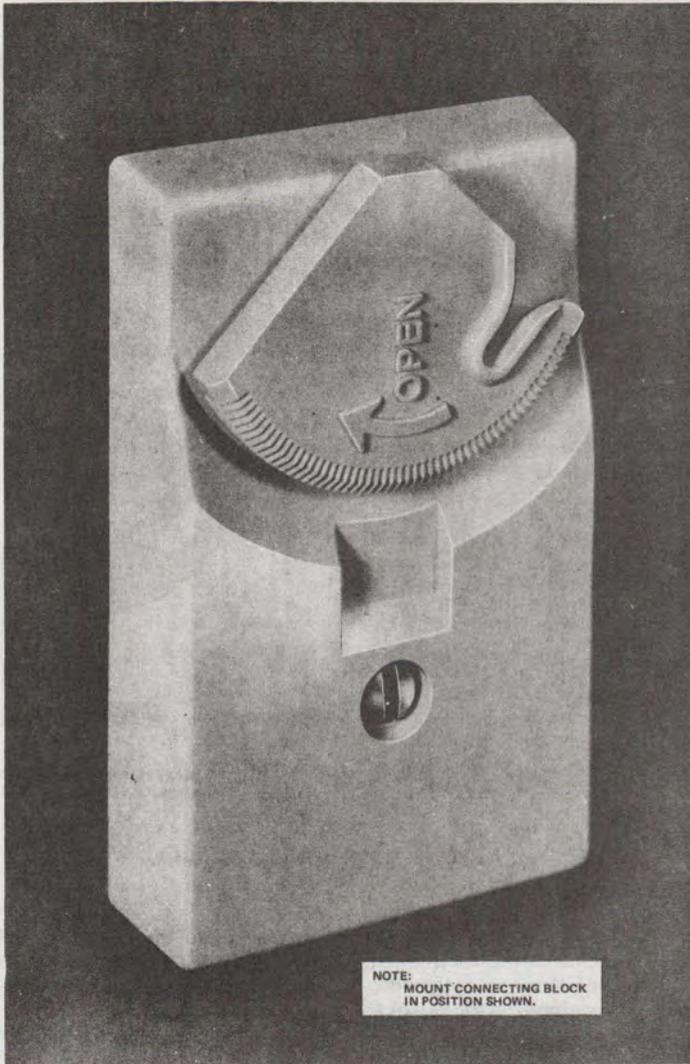

Fig. 5—625S or 625T Connecting Block
- Block, Connecting, 625S (Fig. 5)
- Block, Connecting, 625T (Fig. 5)
**2.08** The **625S** connecting block (Fig. 5) is similar to the 625A except it has a customer-operable spring-loaded cover which protects the interior telephone line contact springs from contamination. It is intended for use in areas subject to high humidity and condensation or locations exposed to dripping, washing, or foreign matter. It contains a 42A block.
2.09 The **625T** connecting block (Fig. 5) is the same as the 625S except it does not contain a 42A connecting block. It is intended to convert existing 42A or 625-type connecting blocks where extra protection is needed.
**3.07 625S Connecting Block:** Mount the 42A connecting block on the wall (preferred) or baseboard so that the 625S connecting block cover is positioned as shown in Fig. 5. When mounting on masonry walls, a backboard should always be used.
3.09 **625T Connecting Block:** This connecting block is the same as the 625S except it does not contain a 42A connecting block. This connecting block is to be positioned over existing 42A connecting blocks as shown in Fig. 5.